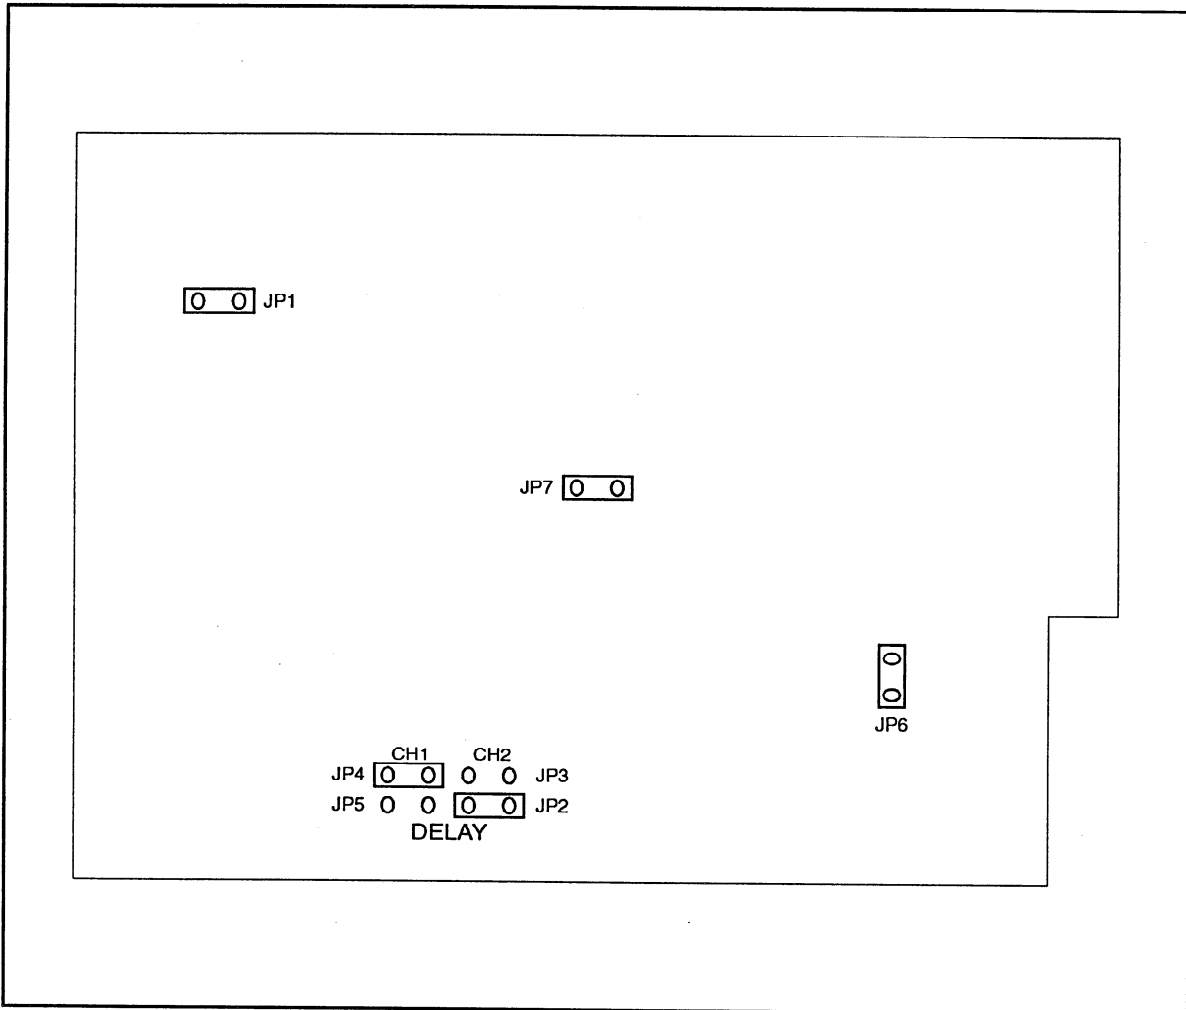

Figure 2.3 Internal Controls
1. When the AIM is shipped from the factory, the transfer times for both ADCs are set at 1  $\mu$ s. This will allow a maximum cable length of 4.5 m (15 ft). If these are the desired settings, go to step two. If you'd like to change the transfer time settings, remove the 556A's right side-panel. Referring to Figure 2.3 on page 4, change jumpers JP2-JP5 then replace the right side-panel.